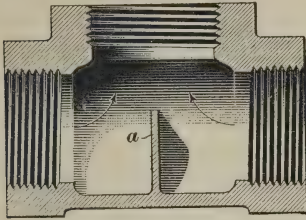

FIG. 18
**30.** A **division tee** is a special form of fitting used to divide the current flowing through it, so that each current will have a chance to flow without interference, or to insure that the main current will not flow past a branch without part of it being diverted into the branch. A **plain partition tee** is shown in Fig. 18; it has a straight partition *a* in the